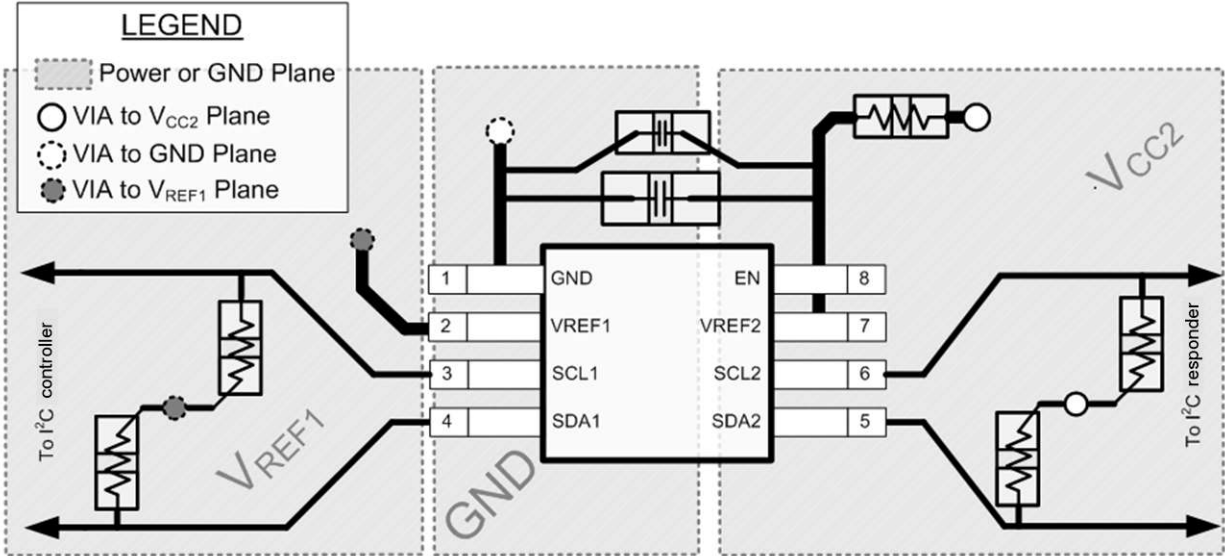

図 8-8. Layout Example
In all PCB layouts, it is a best practice to avoid right angles in signal traces, to fan out signal traces away from each other on leaving the vicinity of an integrated circuit (IC), and to use thicker trace widths to carry higher amounts of current that commonly pass through power and ground traces. The 100-pF filter capacitor should be placed as close to  $V_{REF2}$  as possible. A larger decoupling capacitor can also be used, but a longer time constant of two capacitors and the 200-k $\Omega$  resistor results in longer turnon and turnoff times for the TCA39306-Q1 device. These best practices are shown in 図 8-8.
For the layout example provided in 図 8-8, it would be possible to fabricate a PCB with only two layers by using the top layer for signal routing and the bottom layer as a split plane for power ( $V_{CC}$ ) and ground (GND). However, a four-layer board is preferable for boards with higher-density signal routing. On a four-layer PCB, it is common to route signals on the top and bottom layer, dedicate one internal layer to a ground plane, and dedicate the other internal layer to a power plane. In a board layout using planes or split planes for power and ground, vias are placed directly next to the surface-mount component pad, which must attach to  $V_{CC}$  or GND, and the via is connected electrically to the internal layer or the other side of the board. Vias are also used when a signal trace must be routed to the opposite side of the board, but this technique is not demonstrated in 図 8-8.